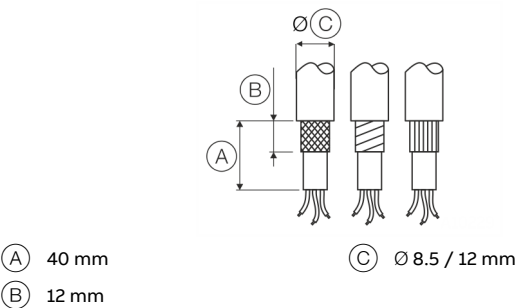

Figure 1: Stripping the connection cable
2. Strip the cable in accordance with Figure 1.